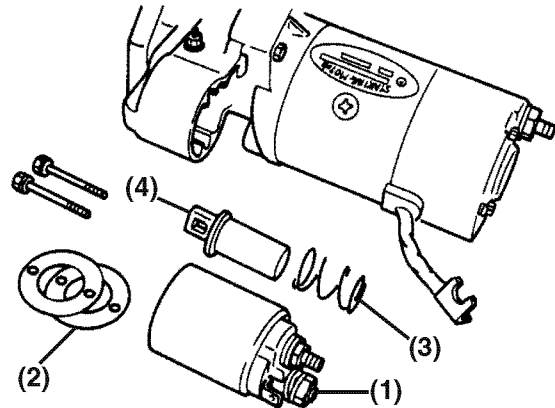

Figure 10-33
14. Reinstall the return spring (if equipped) (**Figure 10-33, (3)**) on the solenoid plunger (**Figure 10-33, (4)**). Reinstall the solenoid switch coil (**Figure 10-33, (1)**) and dust covers (**Figure 10-33, (2)**). Secure with nuts or bolts.